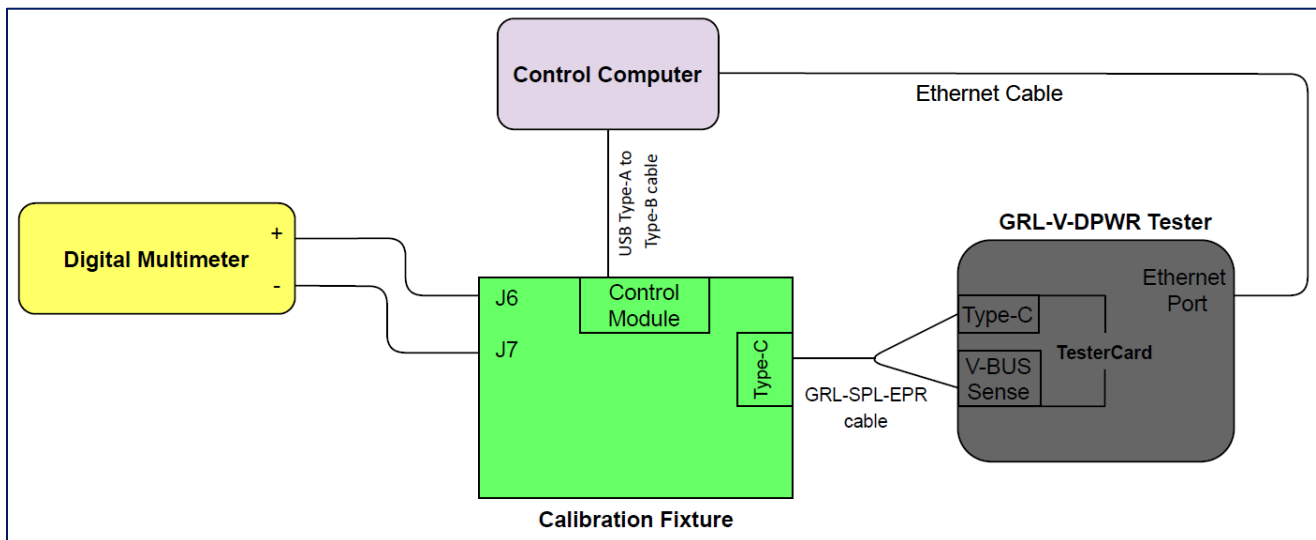

Figure 6. Connection Setup for GRL-V-DPWR Manual Source Port Verification for Voltage Measurements
This section describes the connection diagram to set up the equipment and fixture for manual source port verification for voltage measurements. Set up the hardware connection as shown in Figure 6 below.
1. Set up the hardware connection as shown in Figure 6.